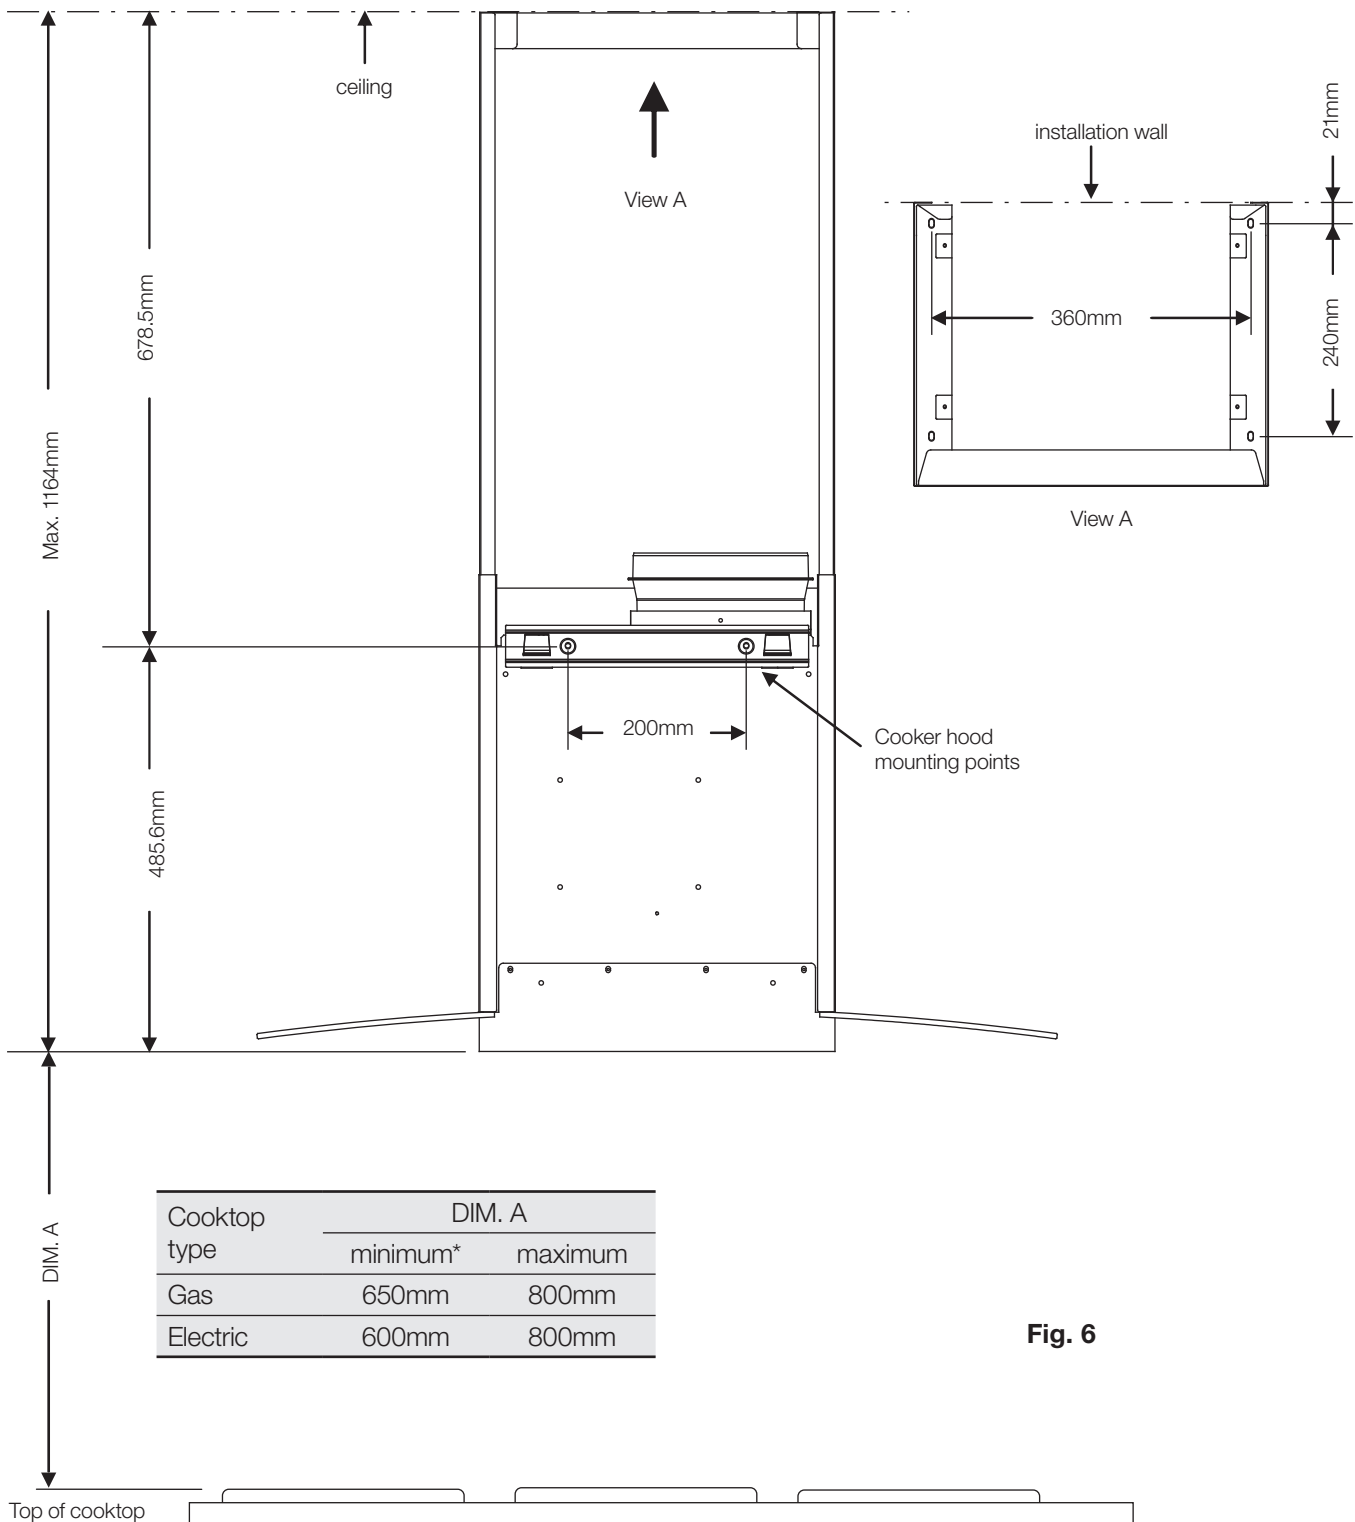

Fig. 6
- Mark the location for flue cover wall mounting brackets and cooker hood mounting points and anti-tilt fixing points above the hood base using the hood base as the reference point (Fig. 6).
3. Install flue cover wall mounting brackets with suitable fixings. Install suitable screws for cooker hood mounting points (to support a total weight of 30kg) to the wall as marked (Fig. 6).